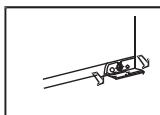

Fig1
1) Push out the outer cover (Fig. 1);